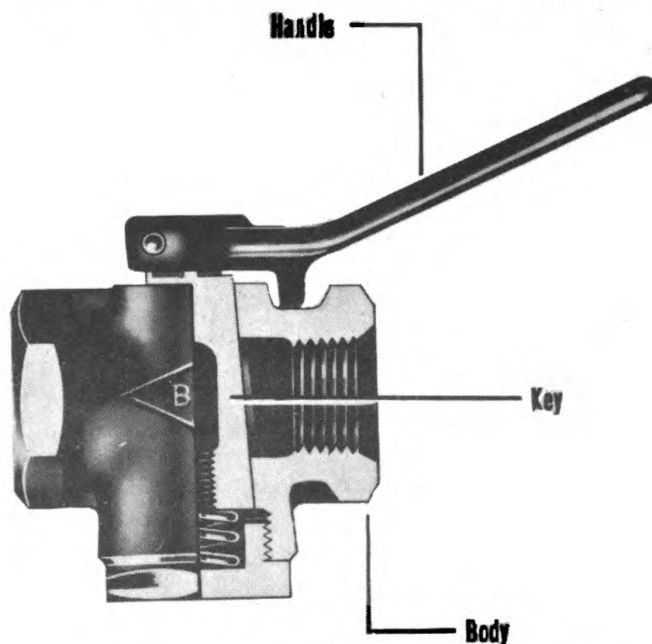

Figure 42—Cross Section of Cut-Out Cock
(1) With the brakes applied, coat the exhaust port with soap suds to detect leakage. Leakage in excess of a three-inch soap bubble in three seconds is not permissible. If excessive leakage is found, the quick release valve must be replaced.
13. Cut-Out Cock. (See figure 42.)